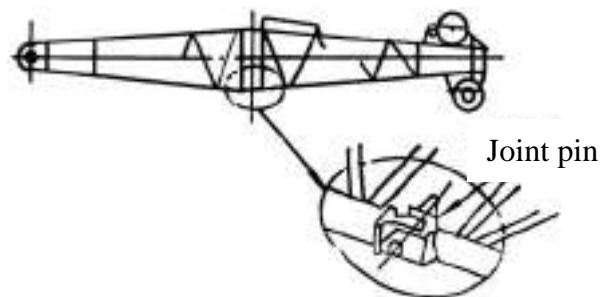

Fig. 7-3
2. Joint the boom foot and boom tip on level ground using boom joint pins, as shown in Fig. 7-3.